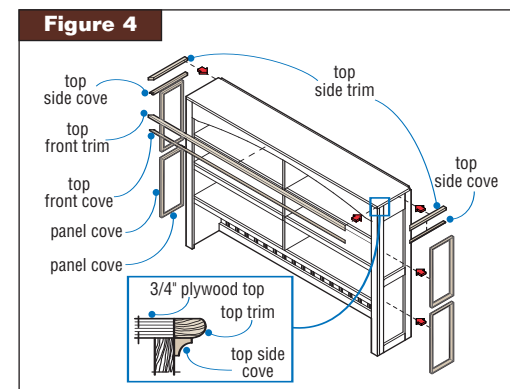

Figure 4
Step 4: Install trim pieces and nosing to the base cabinet. Attach cove trim, shelf nosing, and divider nosing (see Figure 4).
a. Rip the 1 x 2 poplar stock for the trim pieces. Route the top of one edge with a 1/4-inch-radius roundover bit and the bottom of the same edge with a 1/2-inch-radius roundover bit. Sand the edge until smooth and rounded. Attach flush with the top edge of the countertop using 2-inch brads and glue, as shown in the detail illustration in Figure 4.
c. Attach the shelf nosing and divider nosing parts, as shown in Figure 4.
Step 5: Attach trim and cove parts (see Figure 4).
a. Rip stock for trim. Route the top of one edge with a 1/4-inch-radius roundover bit, and route the bottom of the same edge with a 1/2-inch-radius roundover bit. Sand edge until smooth. Attach trim to cabinet, as shown in Figure 4.